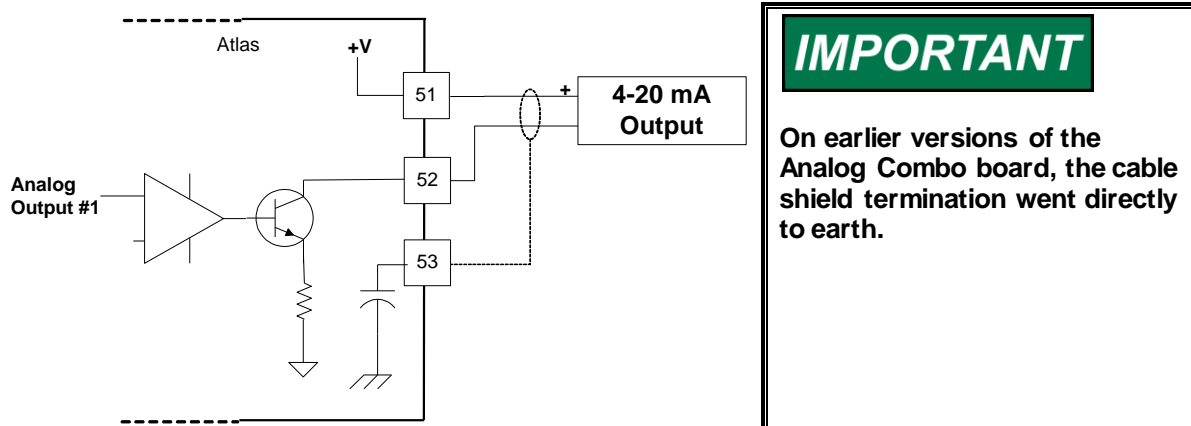

Figure 5-8. Wiring Example—Analog Output Interface (to the Analog Combo Board)
- Refer to Figure 5-8 for analog output wiring.